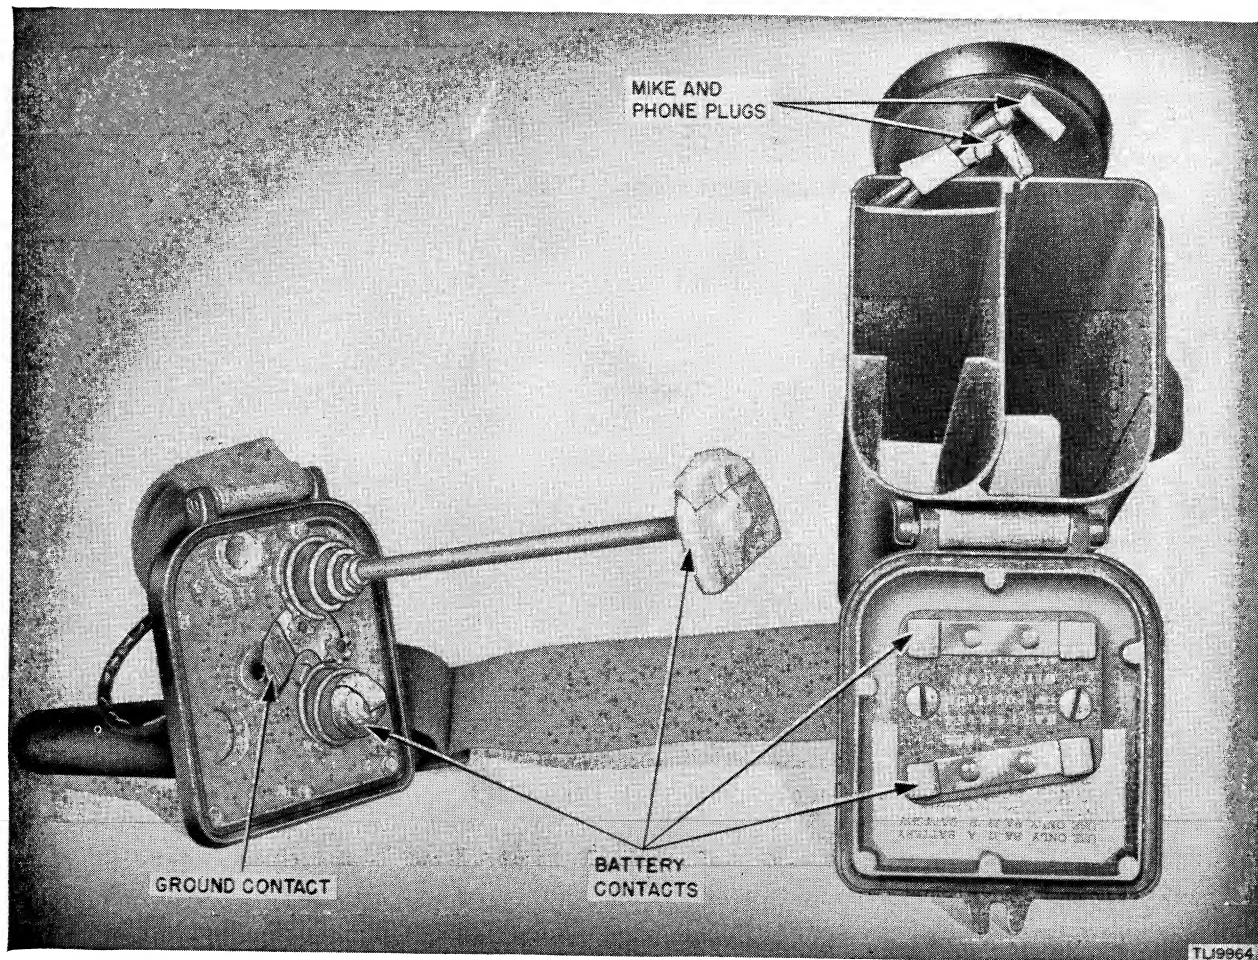

Figure 28. Bottom and top covers, showing masking.
- (14) MIKE and PHONE plugs. (See fig. 28.)
- (15) Battery contacts. (See fig. 28.)
- (16) Ground contact. (See fig. 28.)